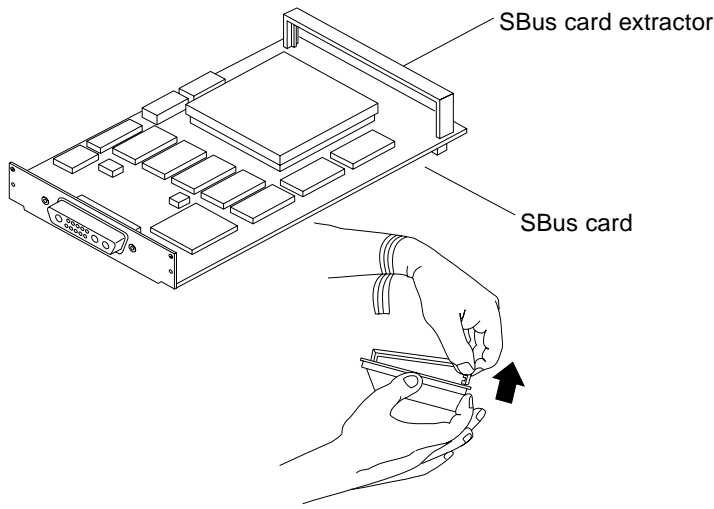

FIGURE 10-7 Removing an SBus Card Extractor
5. Remove the SBus card extractor handle as follows (FIGURE 10-7):